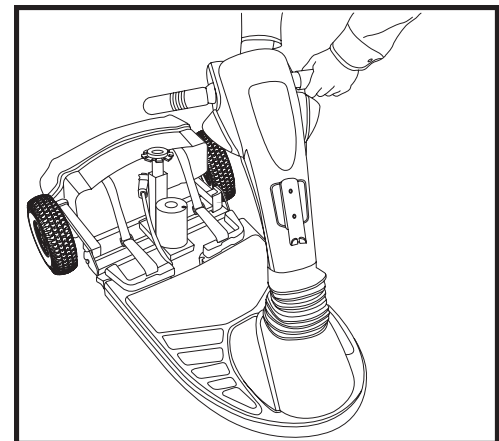

Figure 9A. Lowering The Tiller
1. Turn the tiller to the right so that, when lowered, it will be to the left of the seat post. See figure 9A.